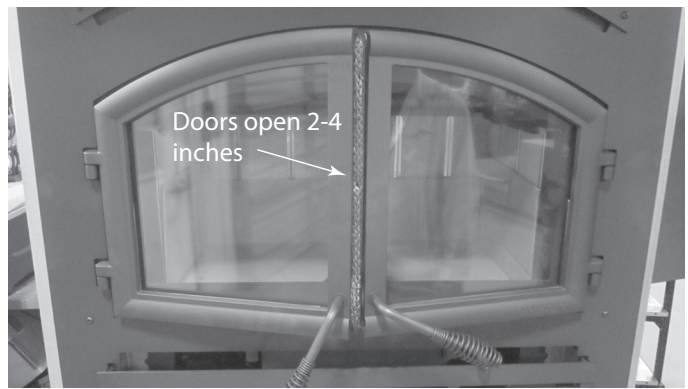

Figure 3.25 Doors Open 2-4 Inches
- Leave the door slightly open 2-4 inches (see Figure 3.25) for 2-3 minutes then close the door, latching it lightly to allow the flame to get going good.
- Leave door slightly open 2-4 inches (see Figure 3.25) for 1-3 minutes or until a good flame is present. Then close the door, latching it lightly. See Figure 3.26.
- Leave the door slightly open 2-5 inches (see Figure 3.25) for up to 5 minutes to get a good flame going then close the door. See Figure 3.27.